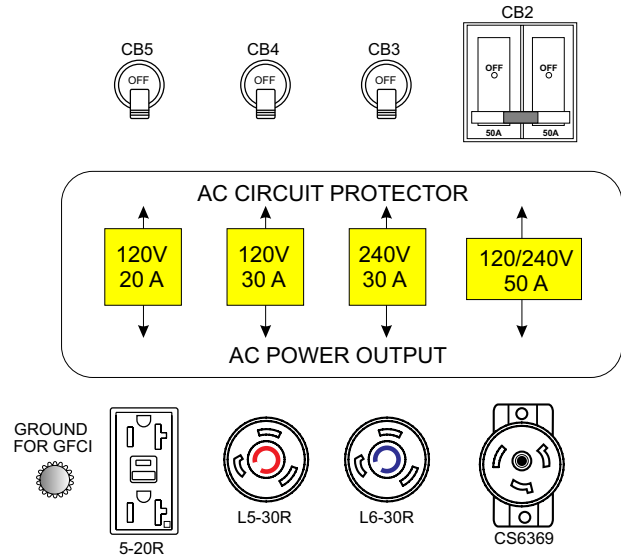

Figure 24. Auxiliary Circuit Breakers
2. In addition, there are **four** circuit breakers (Figure 24) provided to protect the GFCI and auxiliary receptacles from overload. Make sure to switch **all** circuit breakers to the **OFF** position prior to starting the welder-generator.